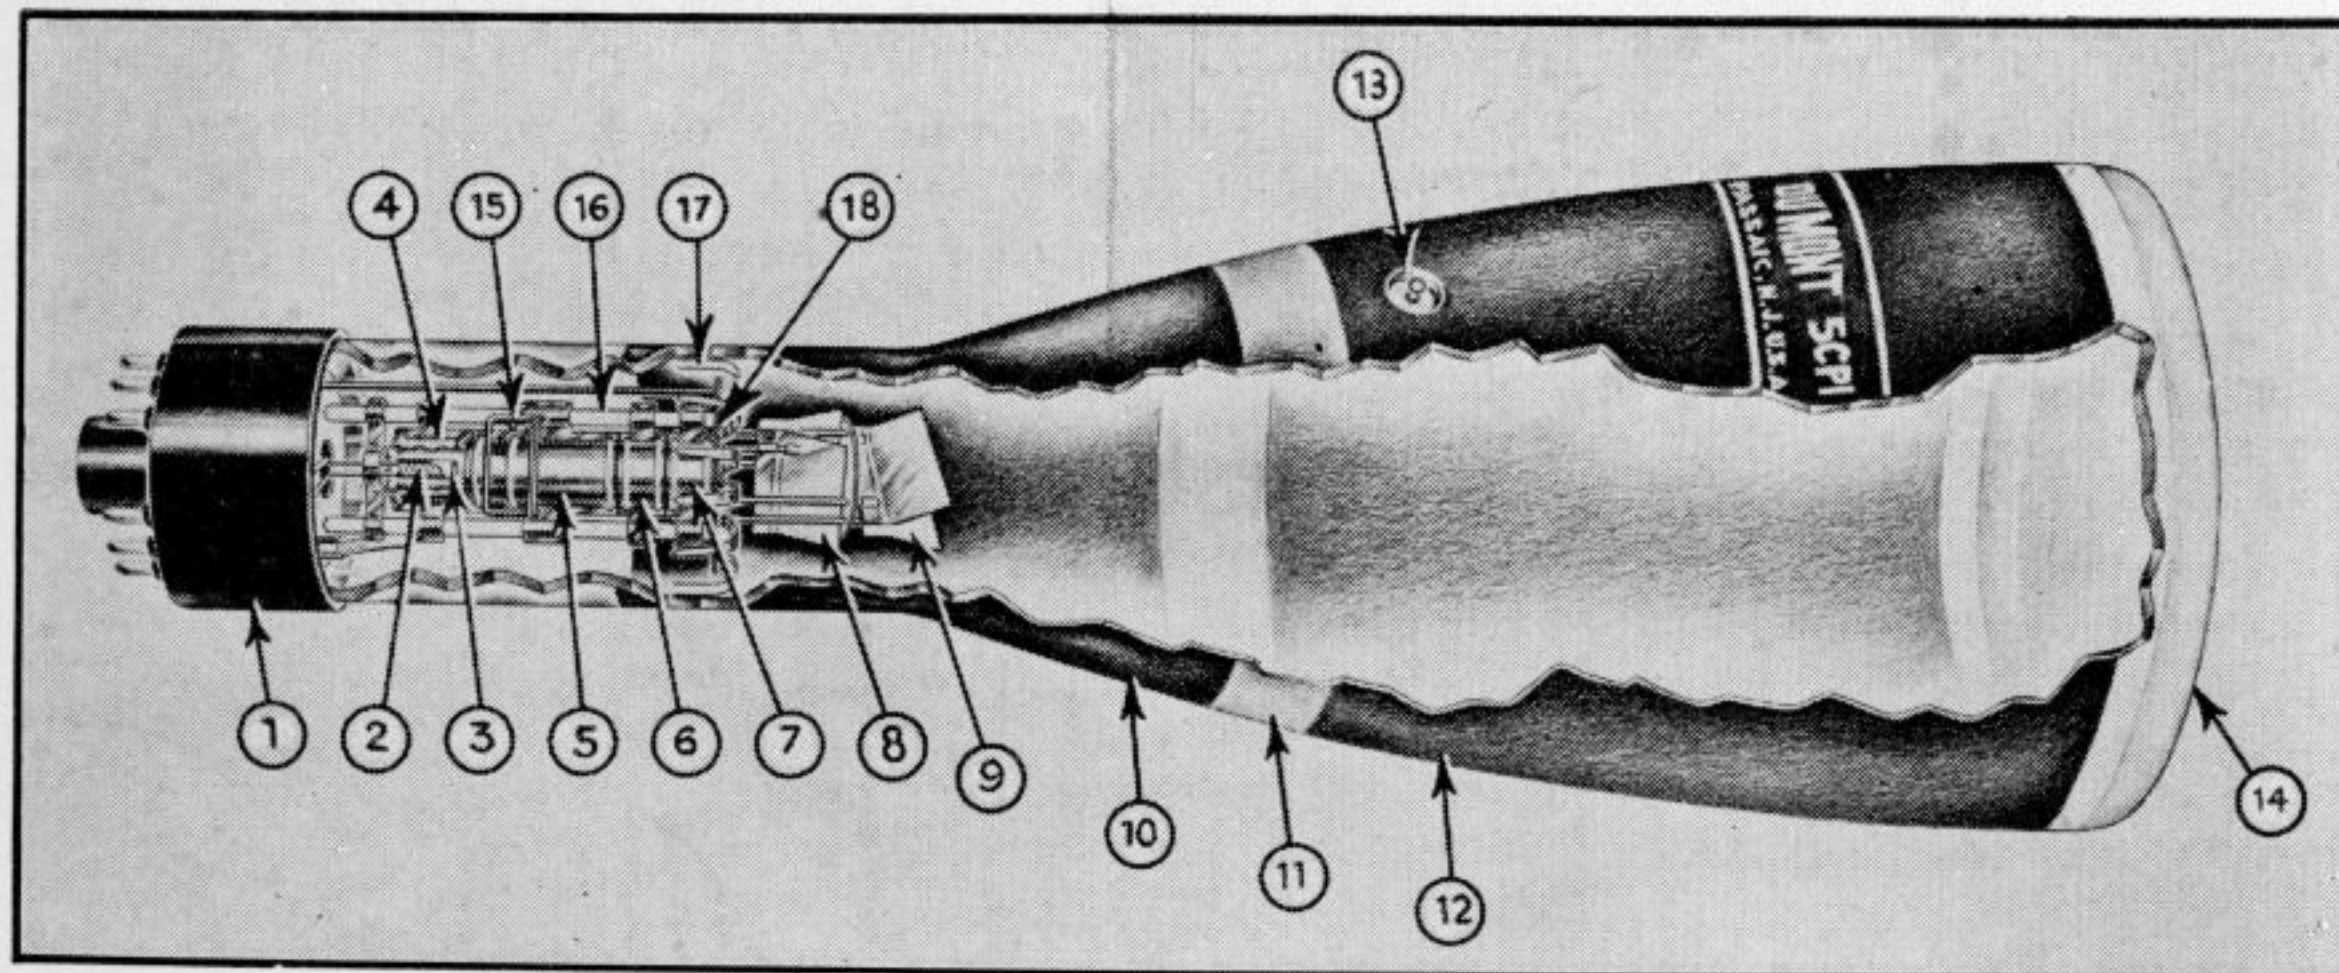

Figure 3. An example of a cathode-ray tube with electrostatic focusing and deflection
A cut-away drawing of a modern high-vacuum electrostatic focus and deflection cathode-ray tube is shown in Figure 3. The heater element (2), mounted in the cathode sleeve (3), heats the oxide coating on the end of the sleeve, causing electron emission. The electric field produced by the control electrode or grid (4) and by the pre-accelerating electrode (5)—internally connected to the accelerating electrode—acts to draw the electrons emitted from the cathode into a narrow beam having minimum cross-section in the vicinity of the grid.